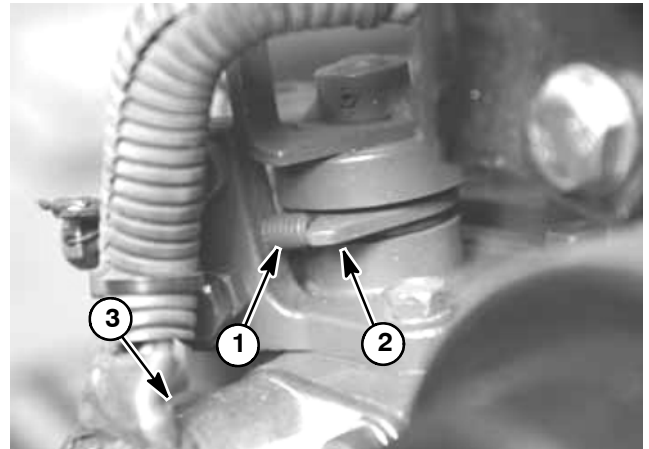

Figure 1
2. Check position of the engine speed control lever on the fuel injection pump (Fig. 1). The speed control lever should contact the high speed screw when the throttle pedal is fully depressed.